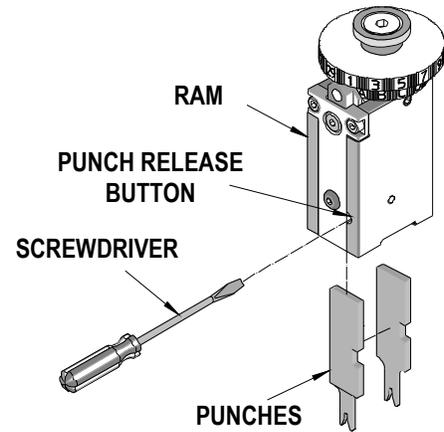

Figure 2-13
4. With a small screw driver, push in the punch release button located on the front of the ram. See Figure 2-13.